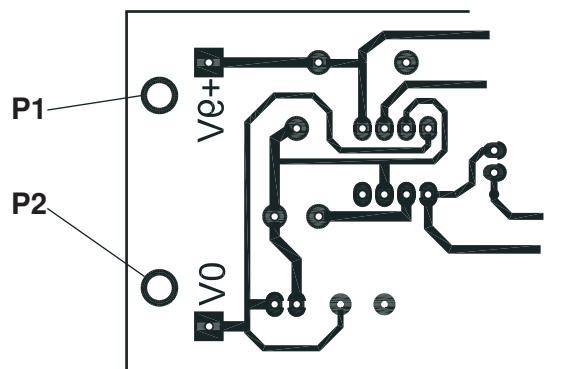

Fig. 4
- (b) Fig. 4 shows final details added to a board layout before manufacture.